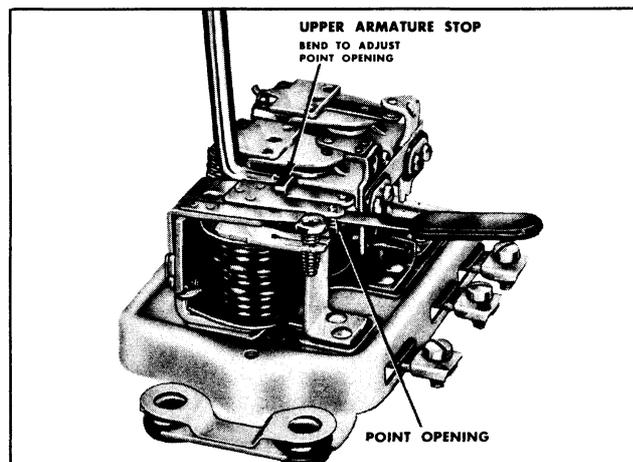

Fig. 13-24 Adjusting Cutout Relay Point Opening
2. Check point opening and adjust to .020" by bending upper armature stop. (See Fig. 13-24)